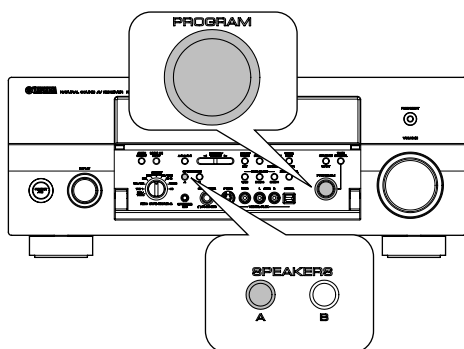

Fig. 13
- a. While pressing the "SPEAKERS A" key of the main unit, turn the "PROGRAM" knob until "Upgrade HDMI" is displayed. (Fig. 13)
- a. While pressing the "SPEAKERS A" key of the main unit, turn the "PROGRAM" knob until "Upgrade i.LINK" is displayed. (Fig. 13)
- a. 本体の“SPEAKERS A”キーを押しながら“PROGRAM”ツマミを回し“Upgrade HDMI”をディスプレイに表示させます。(Fig. 13)
- a. 本体の“SPEAKERS A”キーを押しながら“PROGRAM”ツマミを回し“Upgrade i.LINK”をディスプレイに表示させます。(Fig. 13)